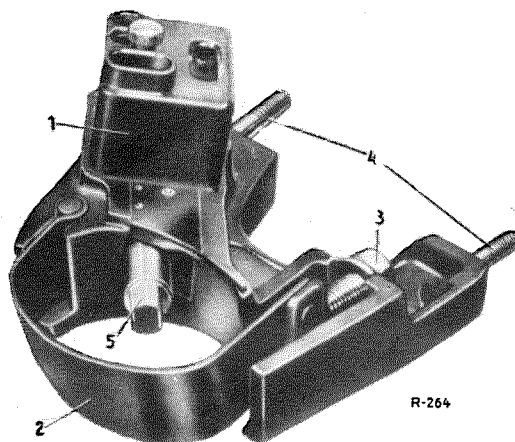

Fig. 46—8/1
5. Remove the hexagon nuts (3) of the tightening strap at the steering column bracket and remove the tightening strap forward (in the direction of travel) (Fig. 46—8/1).